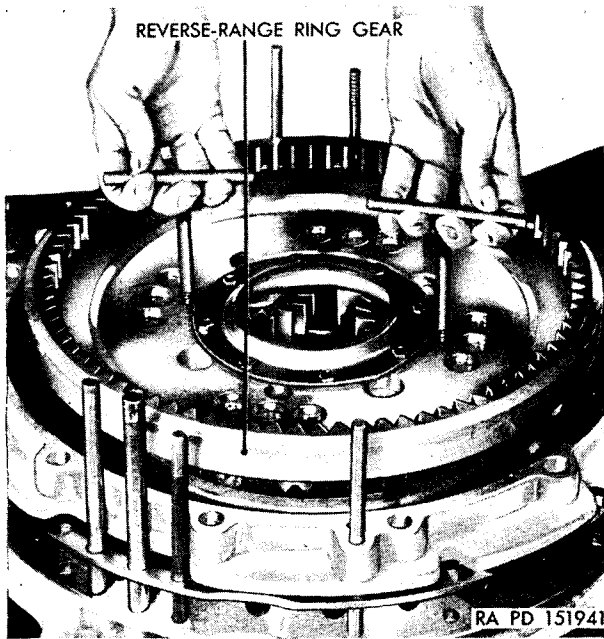

Figure 202. Removing reverse-range ring gear.
- (4) Using a $\frac{3}{8}$ -inch wrench, remove the 12 bolts that hold the reverse-range ring gear and low-range planet carrier together. With the aid of jack screws, separate and remove the reverse-range ring gear (fig. 202) from the low-range planetary carrier.